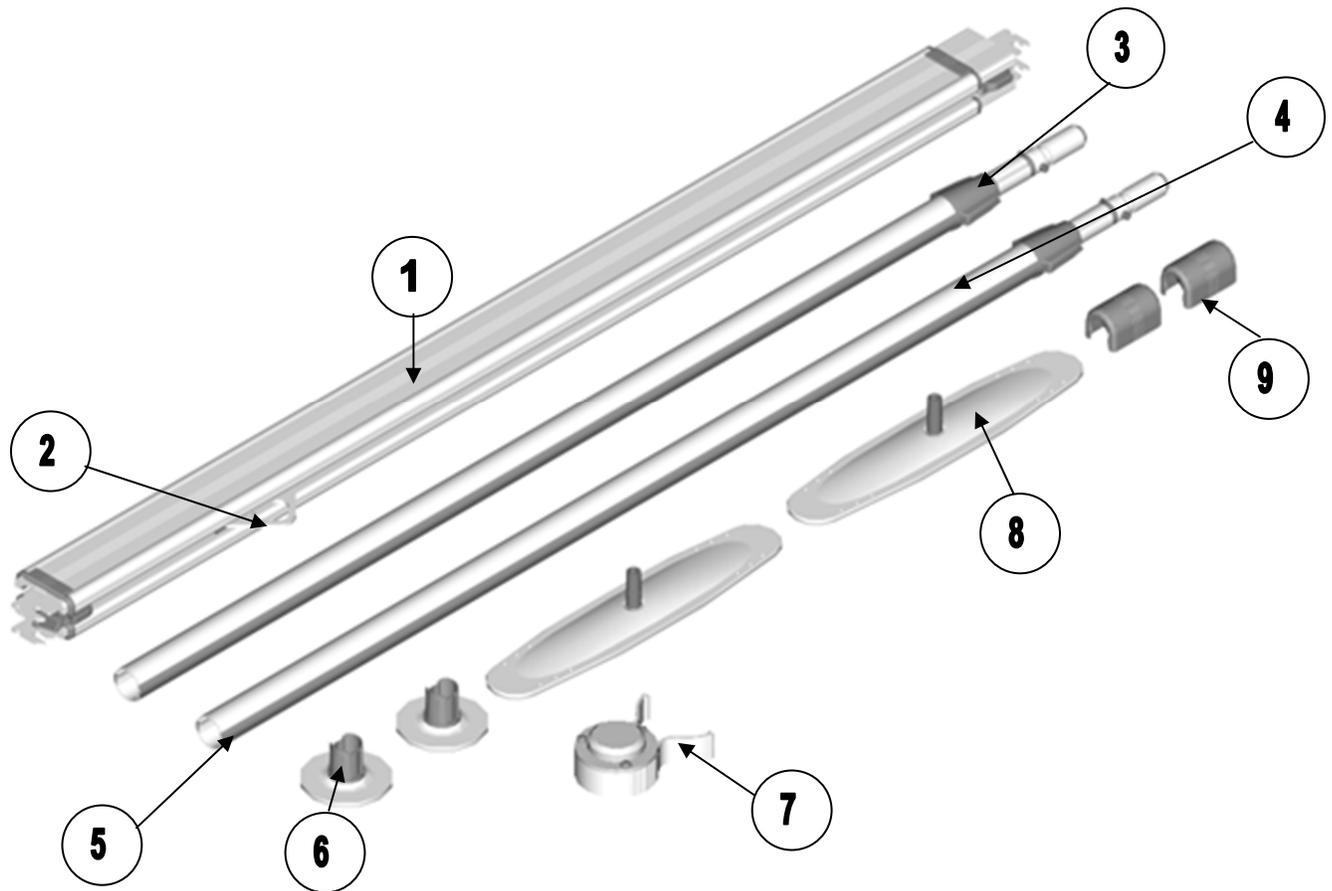
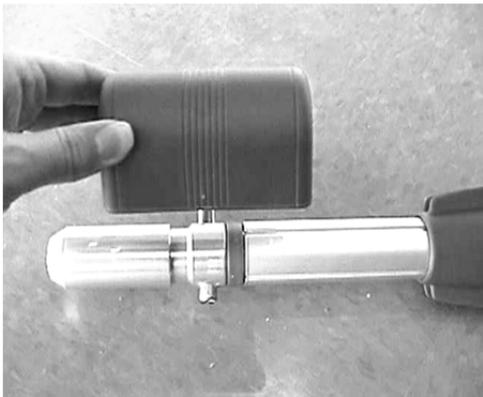
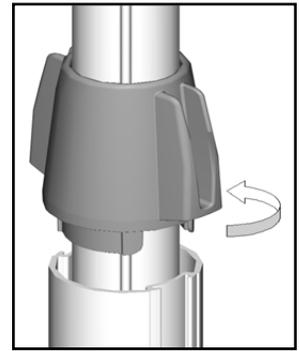

Figure 9
Figure 10
Figure 19
1. Remove the round blue cap (see Figure 9 – item #9) from the top of each post by pulling them away from the post (see Figure 10).
3. Place one round foot plate (see Figure 9 - item #6) on the floor where you want to place the first post of the Easytrack System.
4. Take one of the posts out of the box. Turn the post upright. Place the clip-on level (see Figure 9 - item #7) onto the post at approximately waist height (see Figure 12).
8. Lift the blue locking handle out of the lower portion of the post (see Figure 9 - item #3). Using the blue piece as a handle, twist the post as follows (see Figure 19):
- After you have both posts secured, install the end of the rail (see Figure 9 – item #1) marked "Step 1" onto one post (see Figure 26).
2. Remove the round blue cap (see Figure 9, item #9) from the ends of the rail, by pulling them away from the post (see Figure 33).